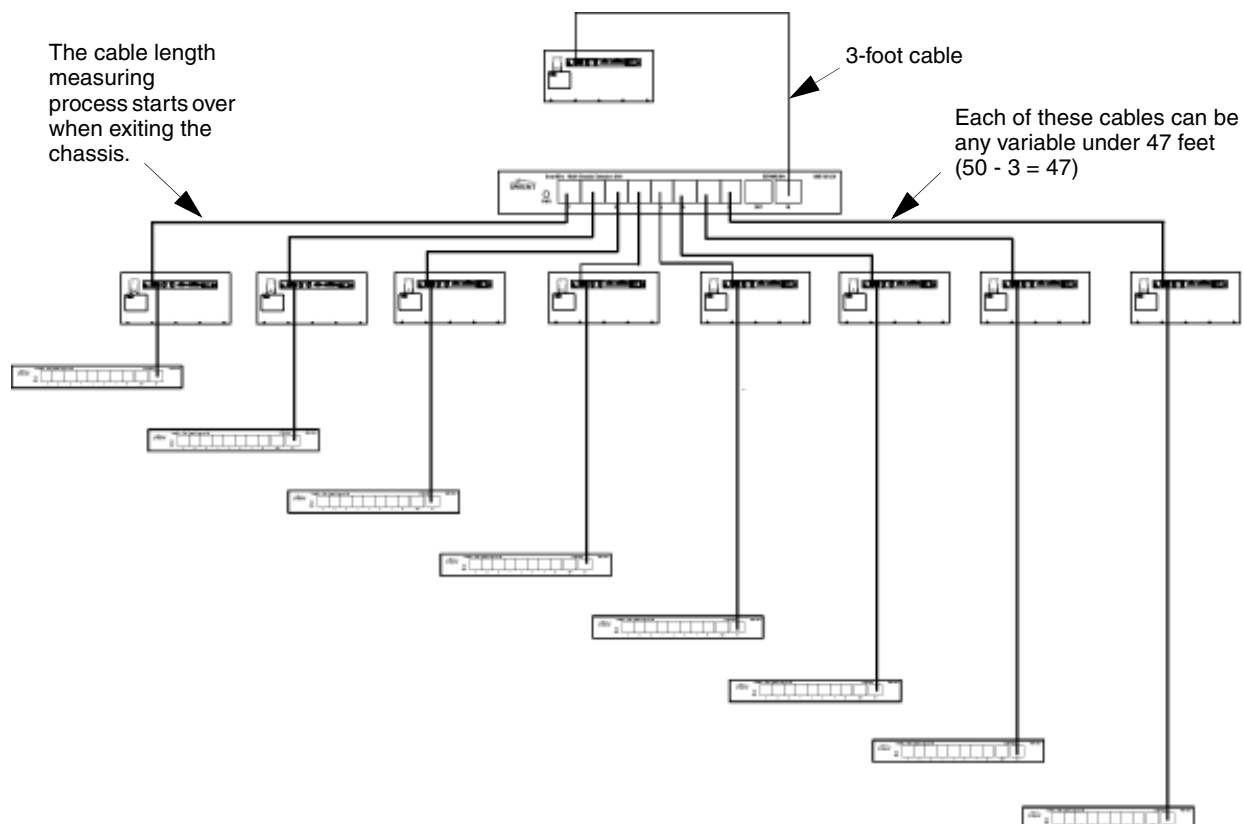

Figure A-13. Example of Hierarchical Connection Configuration
- 1 Connect the *Primary Controller* chassis to the *Principle Extension Unit* (see *Figure A-13*).
Beginning with the configuration shown in *Figure A-13 on page 102*, you can add eight more chassis to each extension unit (*Figure A-14*). You may repeat this procedure until you reach 512 chassis.